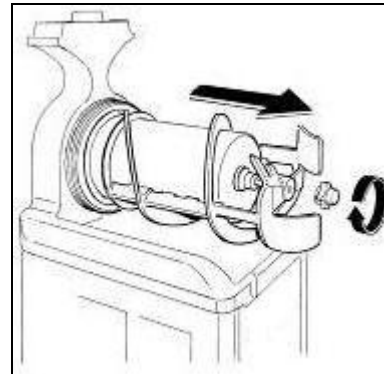

Fig. 17
- Unscrew the security knob in the direction of the arrow (threading on left), then pull out the mixing unit, the bell shaped seal and the bowl gasket on the back (fig.17).